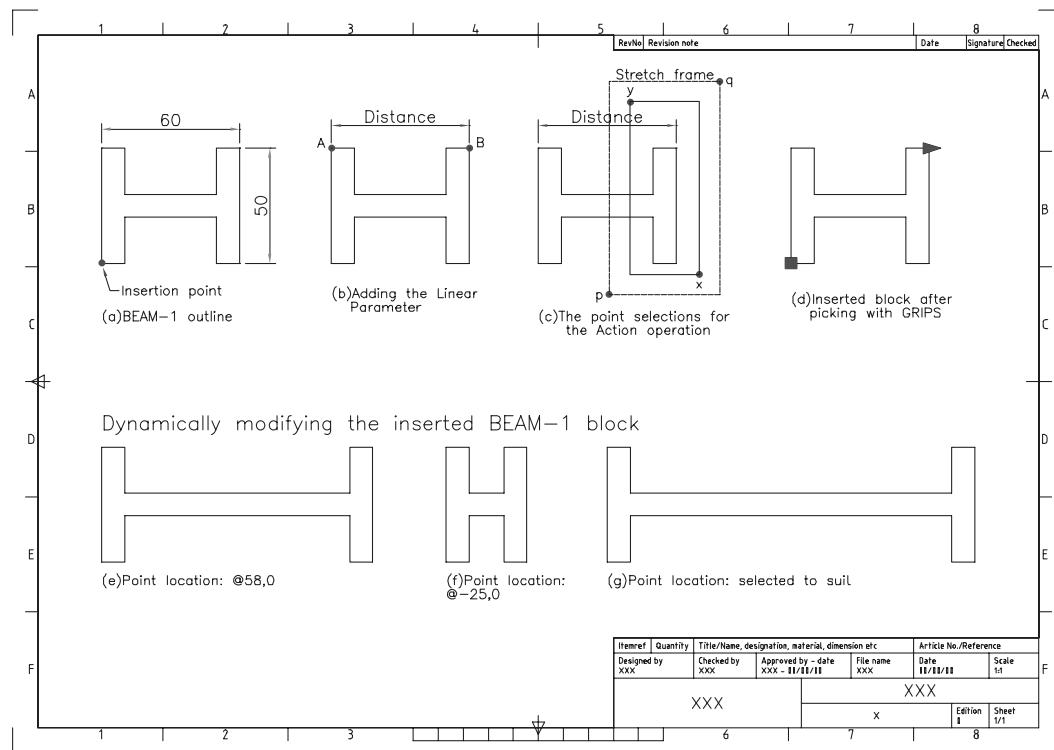

Figure 30.1 Dynamic block exercise 1 with BEAM-1.
- 2 Refer to Figure 30.1 and:
- a) draw the beam shape as Figure 30.1(a) using your discretion for sizes not given
respond **Endpoint icon and pick point A** indicated in Figure 30.1(b)
respond **pick above** as indicated in Figure 30.1(b)
respond **pick point p** as indicated in Figure 30.1(c)
prompt grip box and arrow added to the block as Figure 30.1(d)
enter @58,0 <R> then ESC – Figure 30.1(e).
b) enter @-25,0 as the point location then ESC – Figure 30.1(f).
- 14 Stretch the third inserted block by selecting a suitable point – Figure 30.1(g).